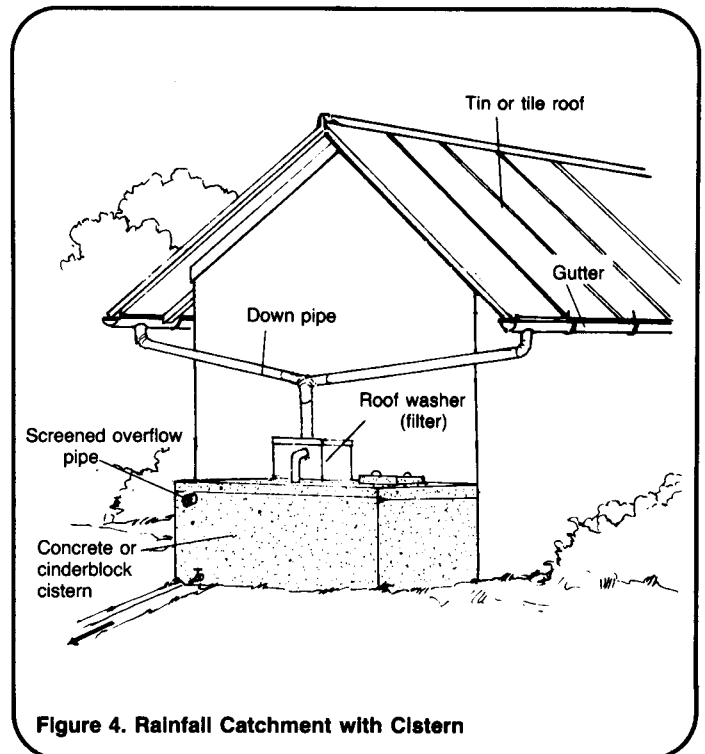
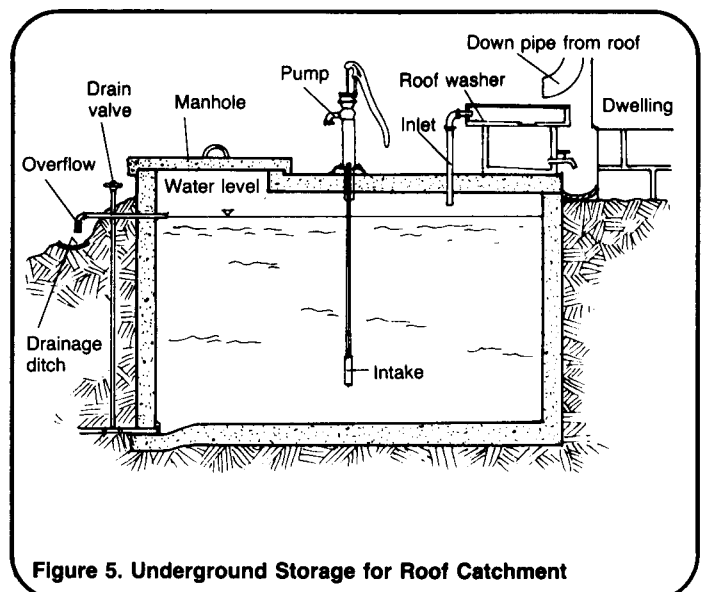

Figure 4. Rainfall Catchment with Cistern
Figure 5. Underground Storage for Roof Catchment
Concrete, ferrocement, mortar or clay storage jars or underground cisterns are all useful and practical for storing rainwater. Reinforced concrete cisterns are usually rectangular in shape and are located adjacent to the house. They can either be built at ground level as shown in Figure 4 or underground as in Figure 5. Reinforced concrete is preferred because it is watertight.
6. Install a screened overflow pipe at the top of the cistern as shown in Figure 4. Slightly above the bottom of the tank, place an outlet pipe or tap. The tap should be high enough so that a container used for collecting the water